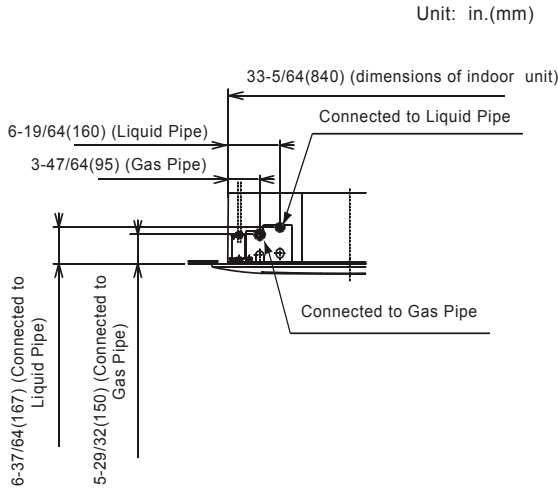

Fig. 5.1 Pipe Connection Points
- (1) The connection point and diameter of piping are shown in Figs. 5.1 and 5.2.